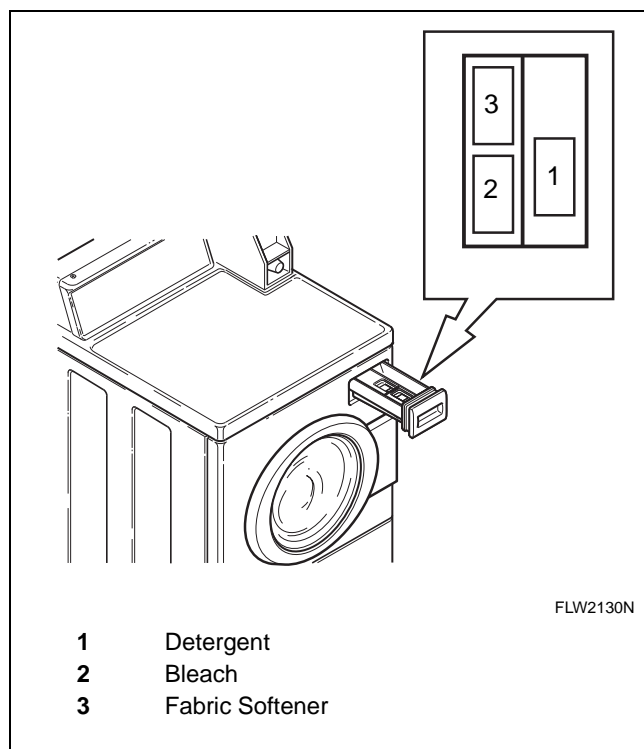

Figure 15
Open dispenser drawer. Measure and add low sudsing, high efficiency (HE) detergent (1), bleach (2) and fabric softener (3) to the dispenser drawer (refer to *Figure 15*). Close dispenser drawer.